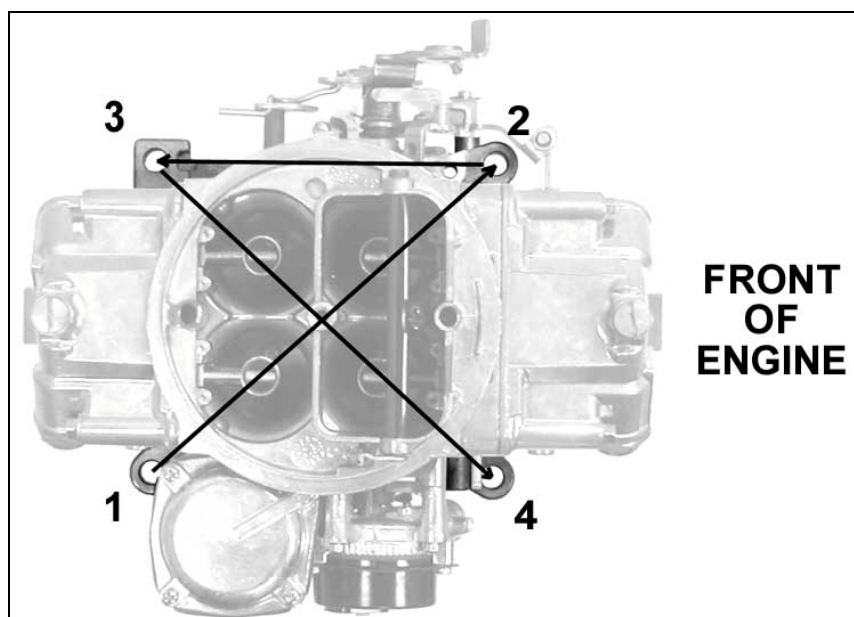

Figure 5—Carburetor hold-down nut torque sequence
3. Place the carburetor on top of the flange gasket on the manifold. Install the hold down nuts and snug down progressively in a "crisscross" pattern (60-80 in./lbs.), as shown in Figure 5.